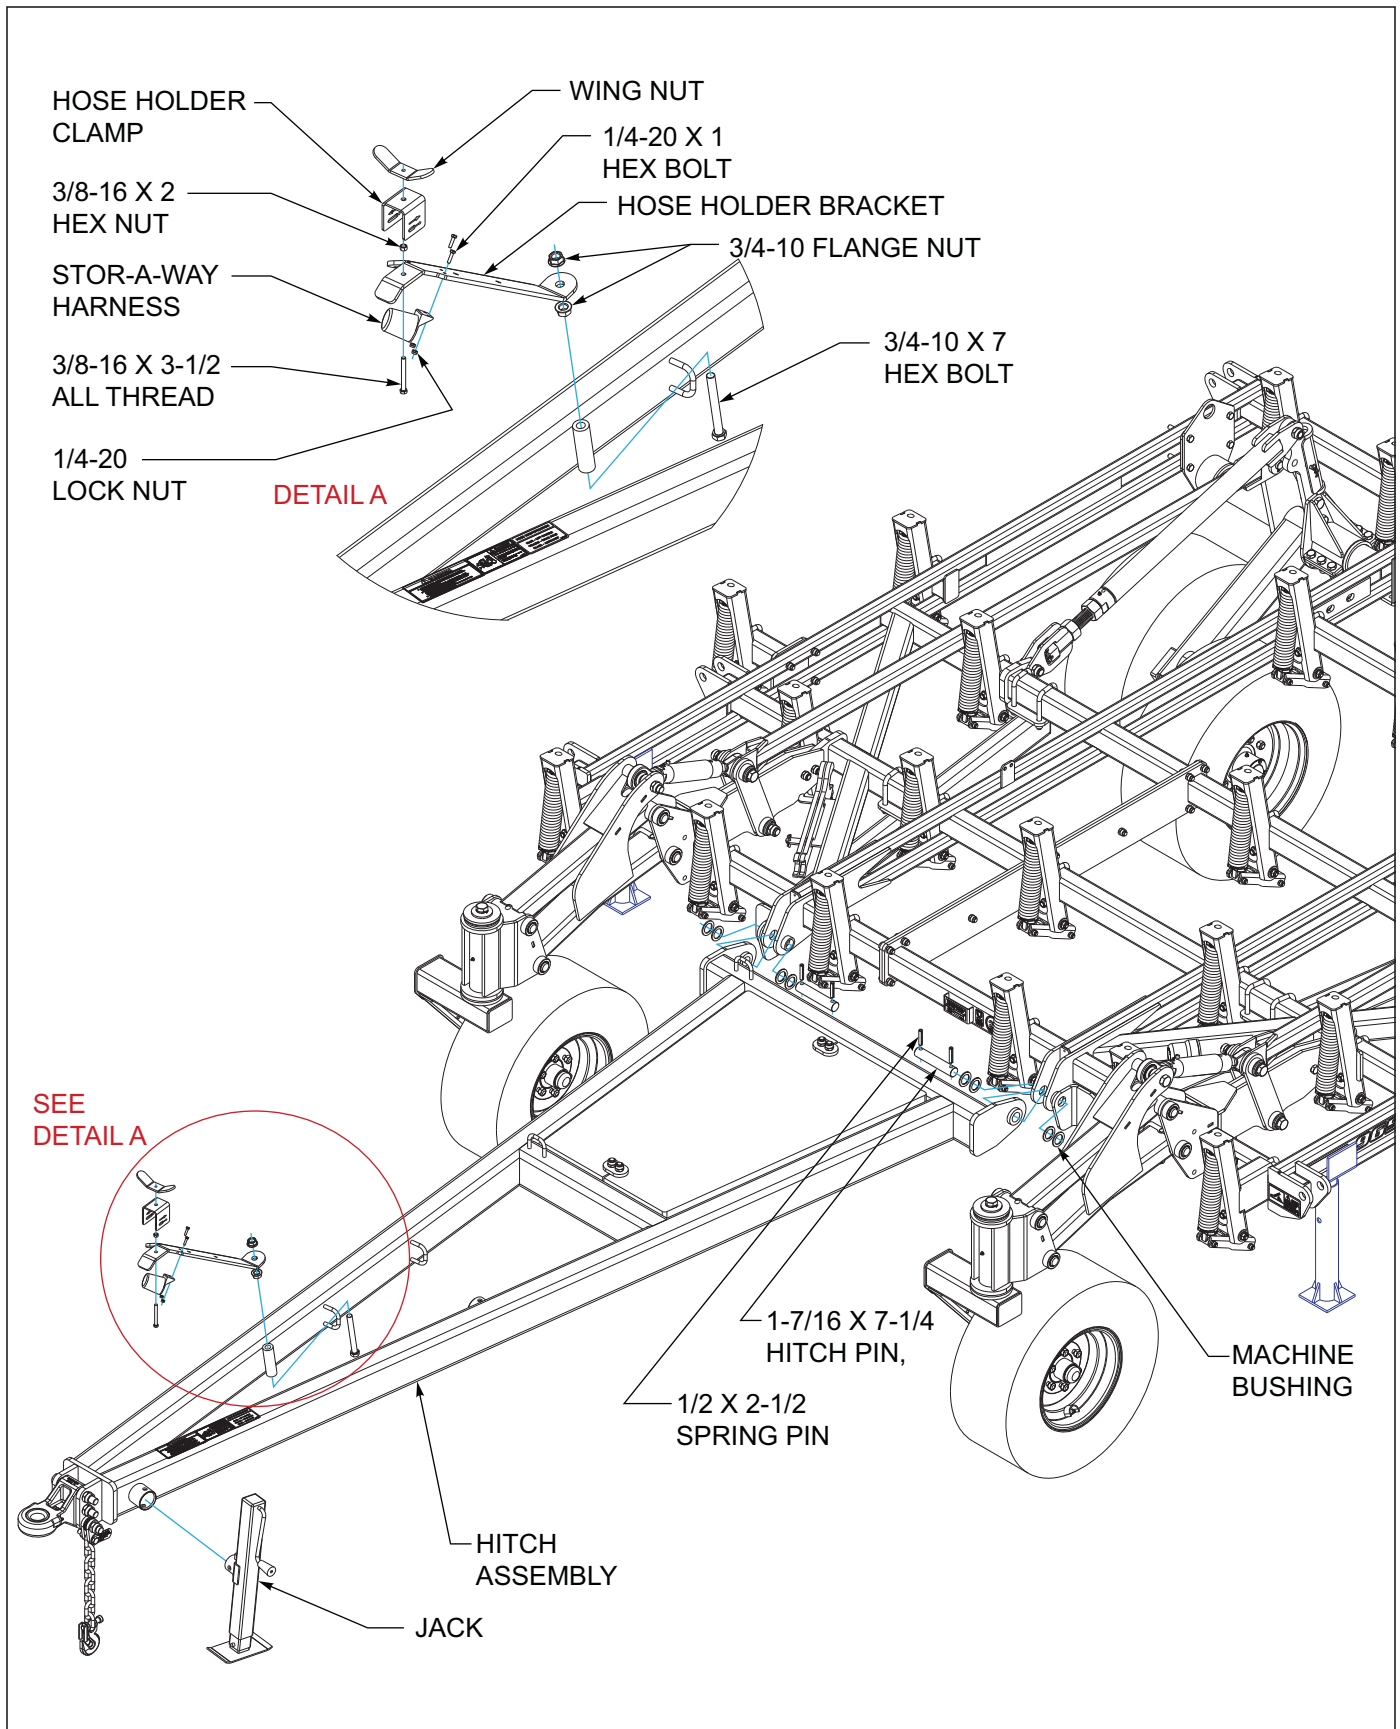

Figure 3-5: Hitch Assembly
1. Connect hitch assembly to the front of the center frame using 1-7/16 x 7-1/4 hitch pin, machine busings, and 1/2 x 2-1/2 slotted spring pin **See Figure 3-5.**